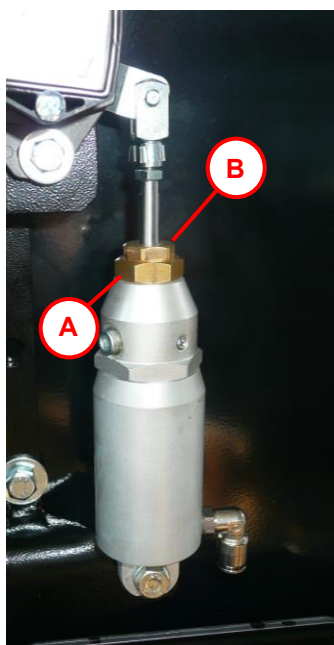

Figure 11.1.1 Adjusting idle speed motor
- 5) Loosen the 23mm lock nut (Letter A in Figure 11.1.1)
- 6) To increase the idle speed of the engine, tighten the 18mm nut (Letter B in Figure 11.1.1)
- 7) To reduce the idle speed of the engine, loosen the 18mm nut (Letter B in Figure 11.1.1)
- 11) Tighten the 23 mm lock nut when the appropriate RPM is obtained (Letter A in Figure 11.1.1)